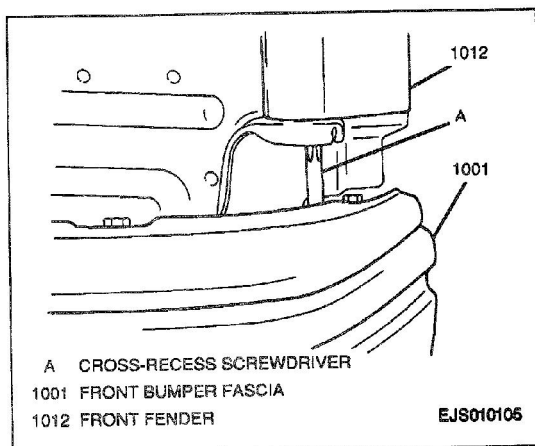

Figure 10—Removing Front Fender Attaching Screw
7. One screw from front fender (Figure 10).
2. One screw to front fender (Figure 10).